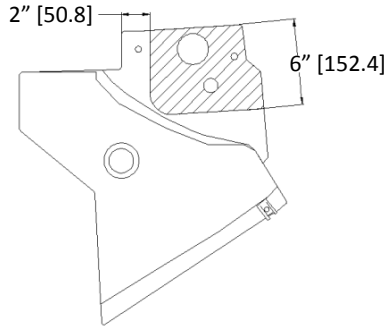

Figure 4
- Trim appearance panel removed in step 1 or return to owner. Obtain owner permission before trimming. With the marker mark out the area to be trimmed, then using the utility knife trim the area. See figure 4. Re-install appearance panel